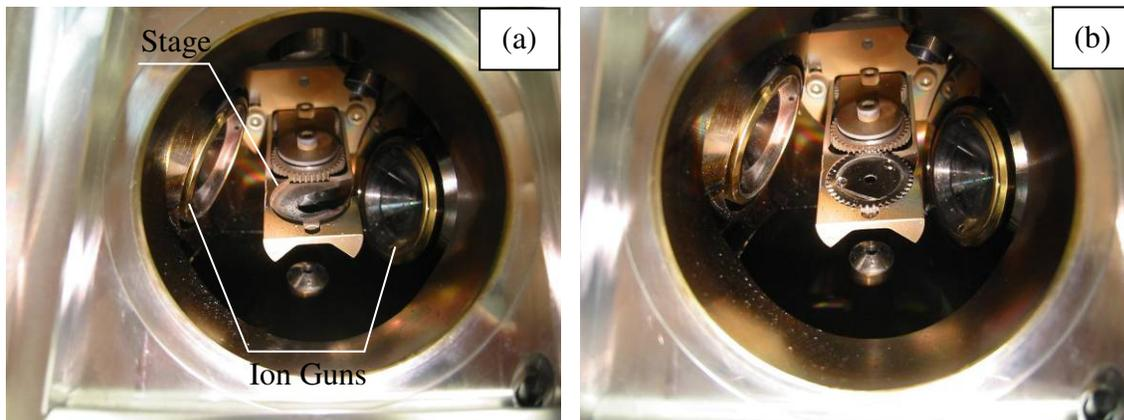

Figure 13 Ion Miller chamber showing specimen stage (a) before and (b) after loading.
- (6) Open the chamber door and load specimen onto the stage, making sure the gears are aligned with those on the stage (see Figure 13);
- (7) Make sure that the specimen's glue-line is aligned at the 3 – 9 o'clock position;